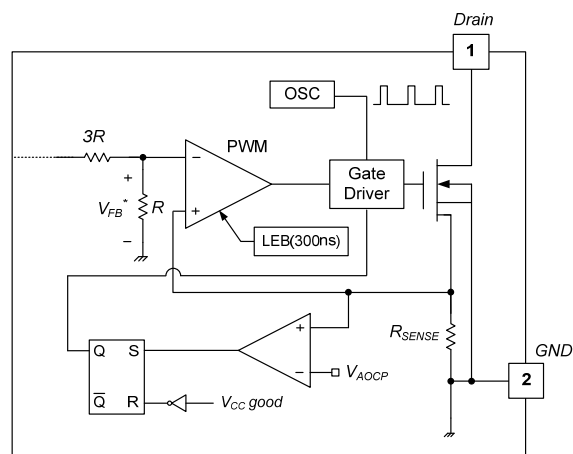

Figure 21. Abnormal Over-Current Protection
4.2 Abnormal Over-Current Protection (AOCP): When the secondary rectifier diodes or the transformer pins are shorted, a steep current with extremely high di/dt can flow through the SenseFET during the minimum turn-on time. Even though the FSGM0465R has overload protection, it is not enough to protect the FSGM0465R in that abnormal case; since severe current stress is imposed on the SenseFET until OLP is triggered. The FSGM0465R internal AOCP circuit is shown in Figure 21. When the gate turn-on signal is applied to the power SenseFET, the AOCP block is enabled and monitors the current through the sensing resistor. The voltage across the resistor is compared with a preset AOCP level. If the sensing resistor voltage is greater than the AOCP level, the set signal is applied to the S-R latch, resulting in the shutdown of the SMPS.